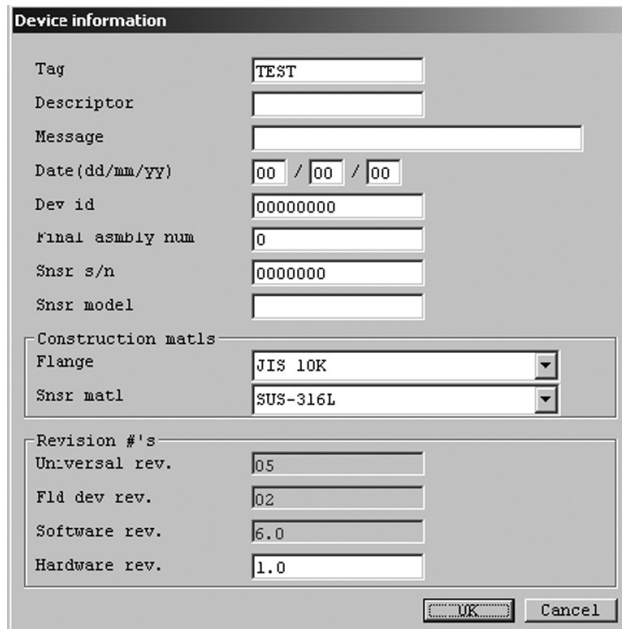

Fig.44
- ① Click on "Setup (S)" at top-level menu of the screen, select "Device information", and click on again.
- ② A message box like the one shown in Fig. 44 appears. Transmitter information are set up at this window.